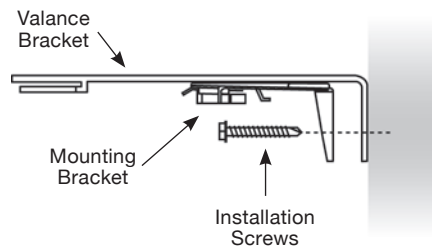

Figure 5
2. Mount the Valance Bracket and Mounting Bracket to the window molding or the wall above the window using the Installation Screws (Fig. 5).